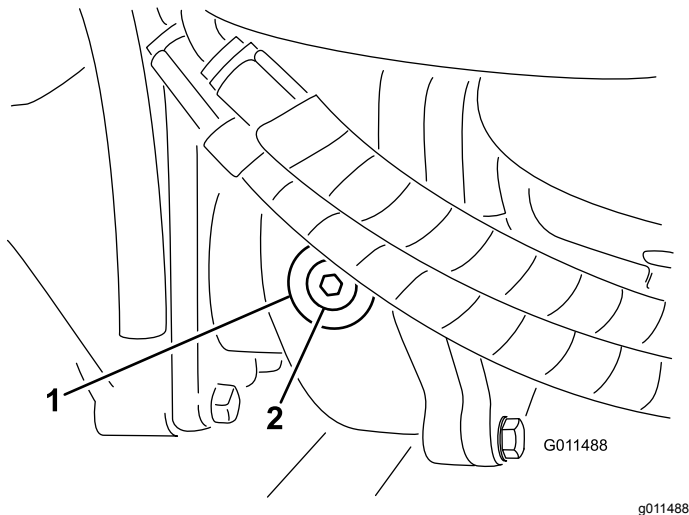

Figure 108
2. Remove the check/fill plug from the left side of the gear box and ensure that lubricant is up to the bottom of the hole (Figure 108).